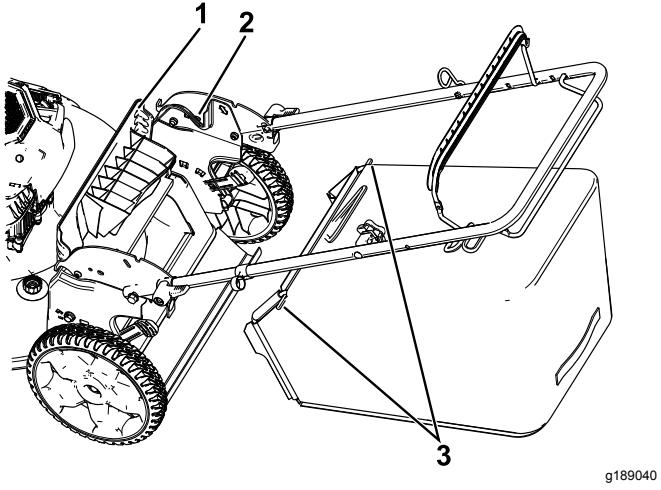

Figure 17
2. Install the grass bag, ensuring that the pins on the bag rest in the notches on the handle (Figure 17).